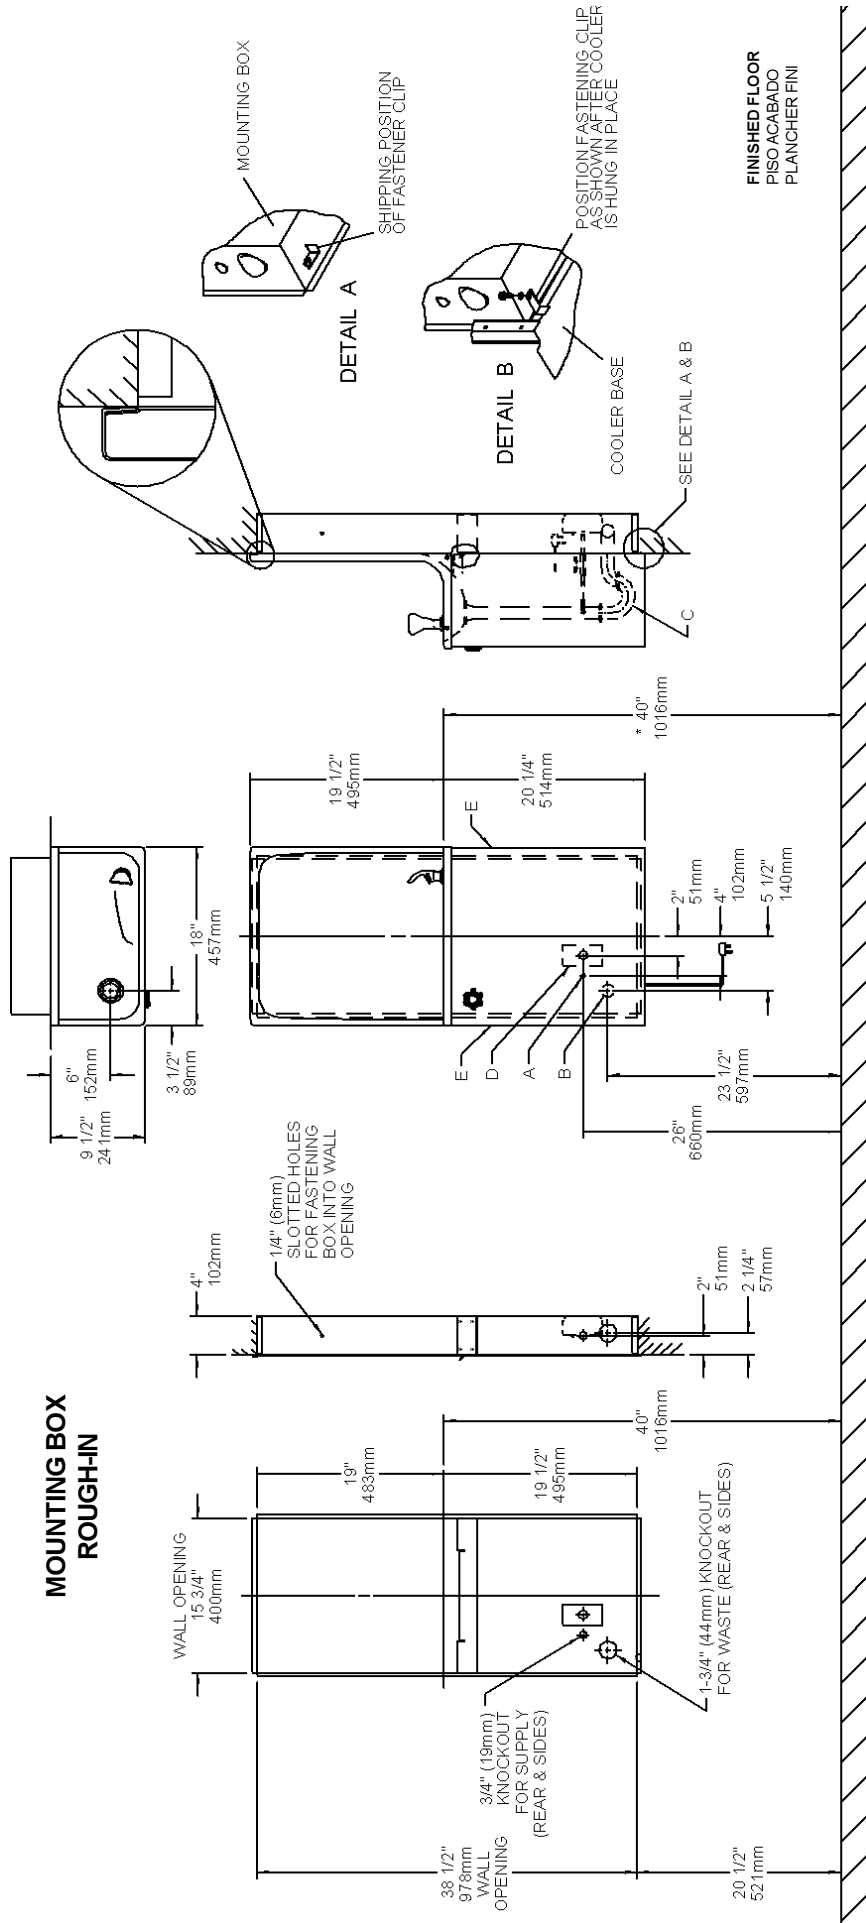

FIG. 2
- 1) Hang the unit from the mounting box by placing the tabs from the upper backside of the basin over top of the upper flange on the mounting box, and mount trap, as shown in Figure 2.
- 2) Secure cooler in place by positioning fastening clips as shown in Figure 2 - Detail B.